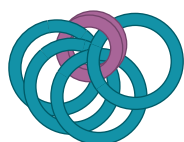

FIG. 1
2. Thread and close first 1 and then a second small open jump ring through 4 large closed jump rings (FIG. 1).